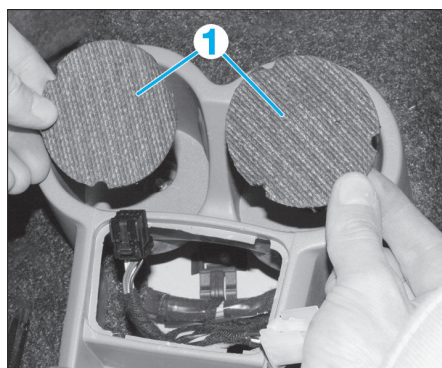

FIG. 2
- les protections (1) (Fig.2),